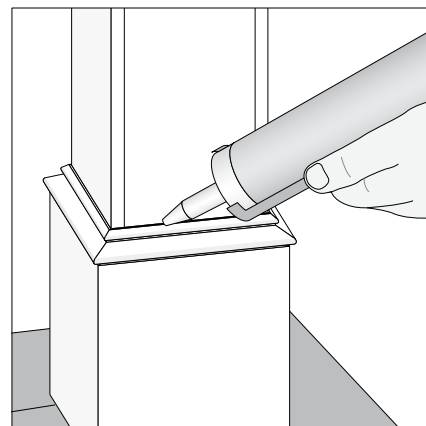

Fig. 9
- Nail or screw holes and gaps can be easily filled using the following products (**Fig. 9**):